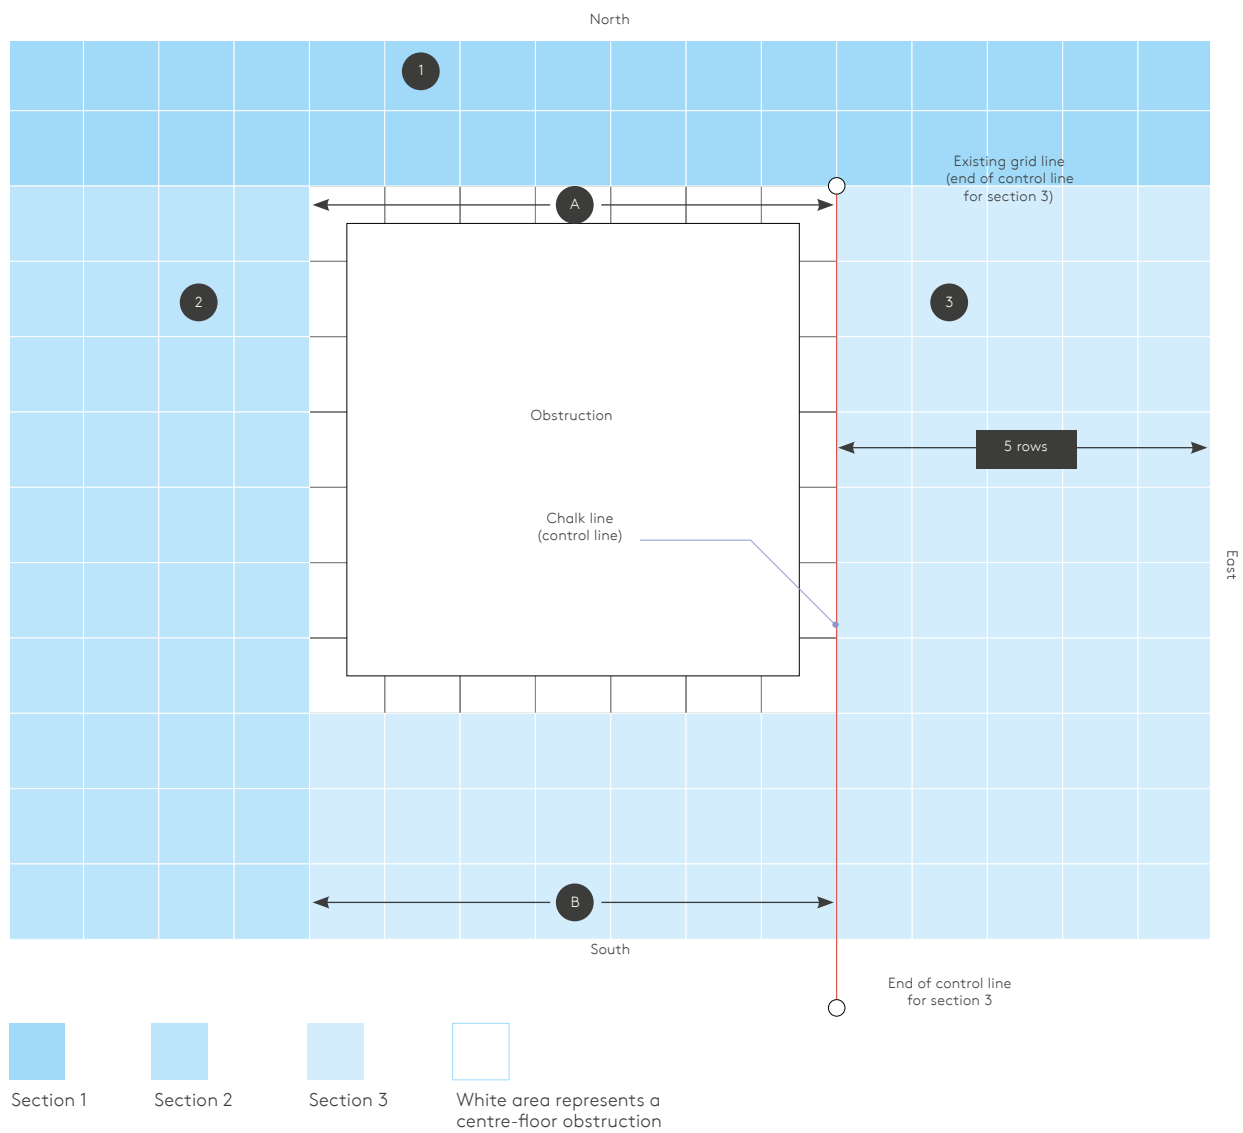

Figure 7. Wrapping around a large obstruction.
- 3 Snap your chalk line between the end of the grid line of section 1 and the mark you just made. This is your control line for section 3 (see red line in Figure 7, opposite).